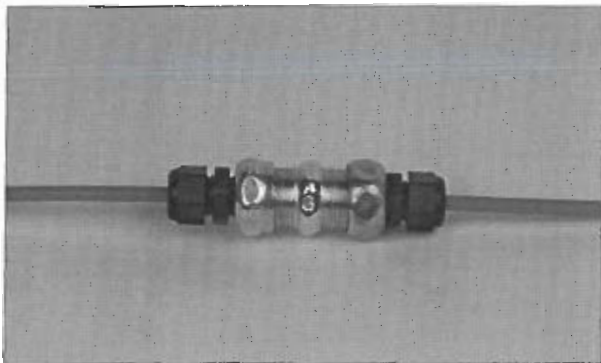

FIGURE 101
11. Push flexible conduit into strain relief until it is approximately 1/16 in. (2 mm) from the bottom of the flexible conduit insert, then tighten strain relief nut onto strain relief body. See Figure 101.